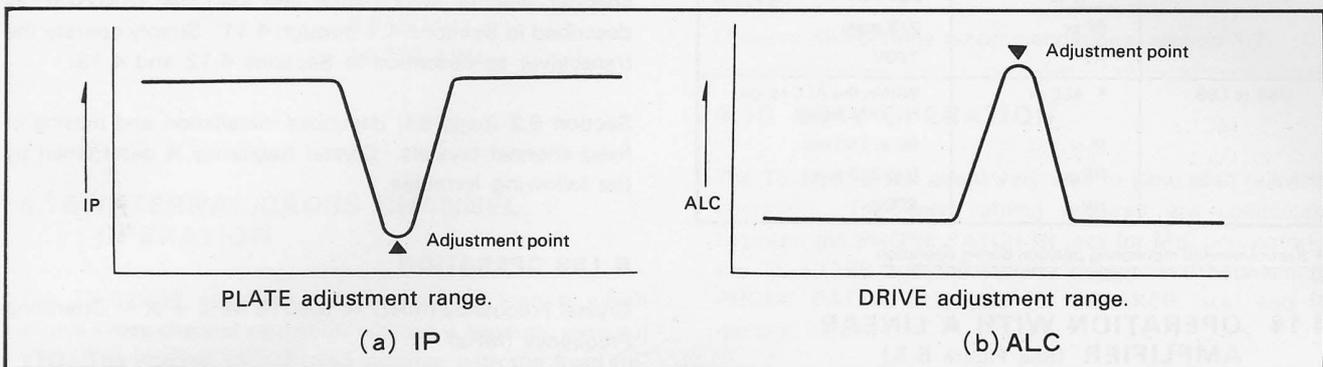

Fig. 4-3. Plate and Drive Tuning
■ DRIVE TUNING (See Figure 4-3.)
■ **PLATE TUNING** (See Figure 4-3.)